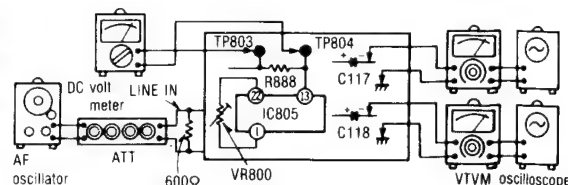

Fig. 17
1. Make the connections as shown in fig. 17 and apply 1kHz -27dB signal from LINE IN, and set the noise reduction selector to dbx tape position.